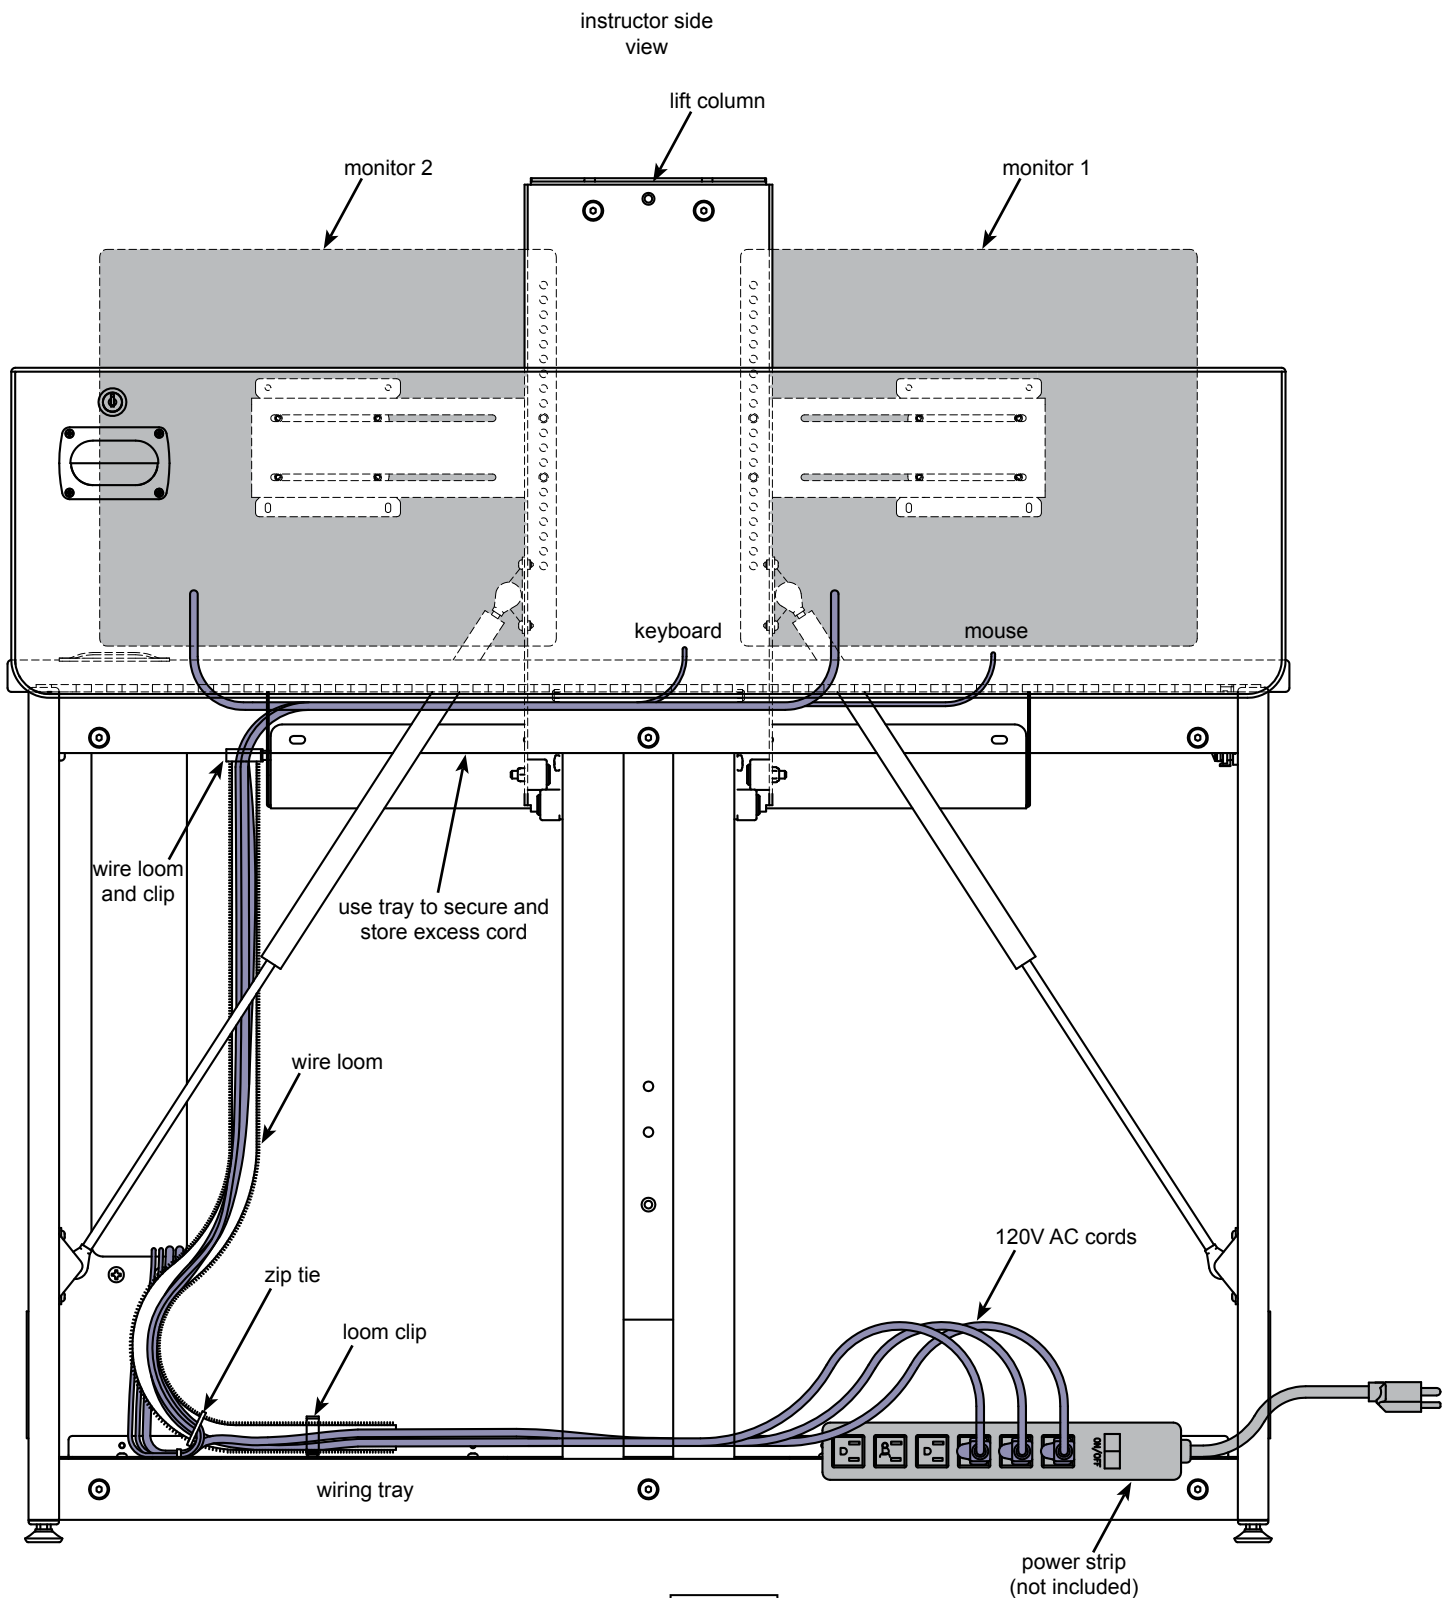

Figure 5D
5. With the loom removed, feed the monitor, keyboard, and mouse cords through the sliced opening of the loom to the bottom of the desk as shown. **Figure 5D.**
8. Secure the CPU cords to the bottom of the loom by attaching a zip tie around the loom directly above where the CPU cords exit the loom. This will prevent the cords from backing out of the loom. **Figure 5D.**